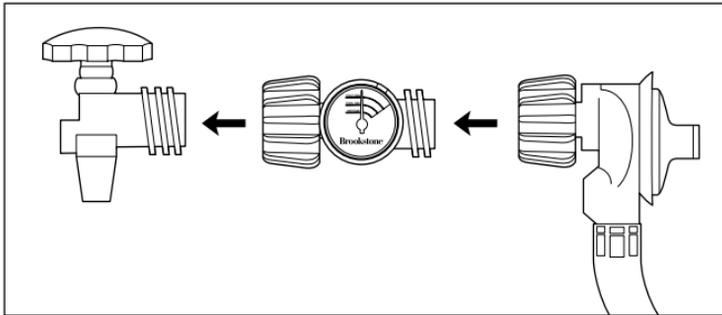

Figure 2
3. Make sure all connections are clean. Adjust gauge to desired position. Hand tighten the plastic coupling nut clockwise to the large outside threads on the propane cylinder service valve until the connection seals properly. (see Figure 2)